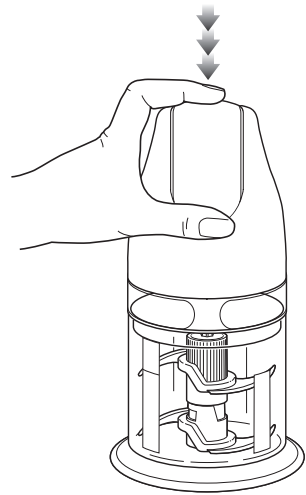

Fig. 5
- 9** To start the appliance, plug the power cord into the electrical outlet, securely hold Master Pod while operating and press on the on/off pulse button located on the top of the Master Pod. **(fig. 5)**